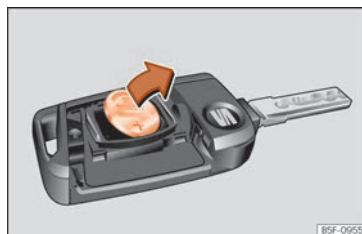

Fig. 80 Vehicle key: removing the battery.
- Extract the battery from the compartment using a suitable thin object »» Fig. 80.
- Place the new battery in the compartment as shown »» Fig. 80, pressing in the opposite direction to that shown by the arrow »» ②.